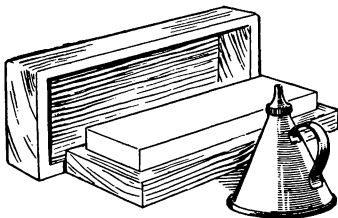

Fig. 9 —Oilstone and oilcan.
- 1 best quality oilstone (Fig. 9),